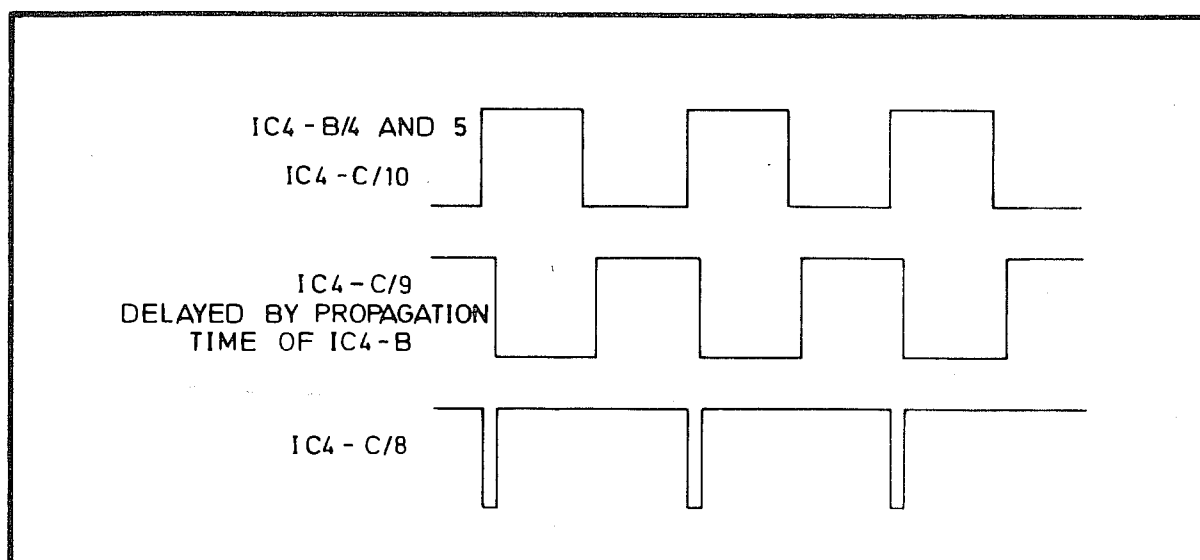

Fig. 6.12 Pulse Generator Waveforms
- 109 Two antiphase waveforms derived from the external reference signal enter the system at SK16 pins 6 and 9. The waveform from pin 9 is converted from ECL to TTL levels in Q1 and squared in IC4d before being applied to the pulse generator, IC4b and IC4c. The operation of this circuit is illustrated in Fig. 6.12.